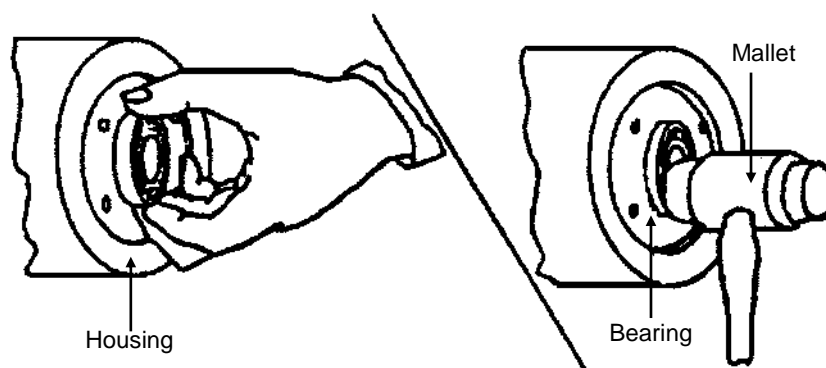

FIG 9.
- C. Align the bearing square to housing and start fitting it by hand into the housing. A soft mallet may be used if necessary. (Fig 9)